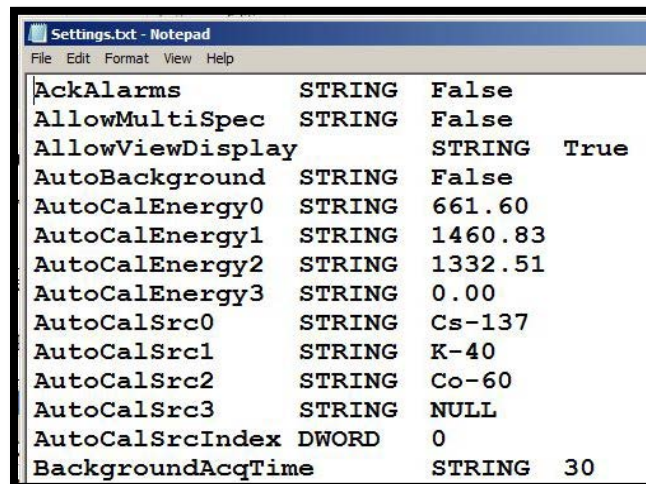

Figure 105. Partial Contents of Typical Settings.txt File
- Figure 105 shows the partial contents of a **Settings.txt** file. The contents can be viewed by connecting a PC to the micro USB connector on the rear panel (see Figure 5 or Figure 6). Simple changes can be made with a text editor if necessary.